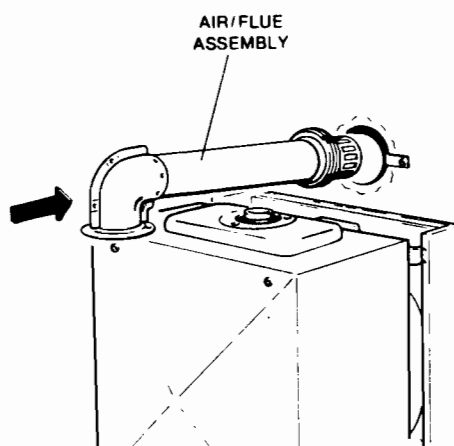
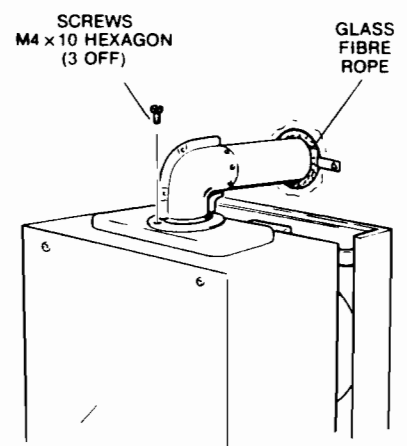

FIG. 23
FIG. 24
g) Coat the sealing ring with a soap solution and slide the flue assembly into the wall liner (see Fig. 23) secure the elbow onto the combination boiler flue spigot, using the three screws provided. Fit the glassfibre rope around the air duct to make a seal between the air duct and the wall liner (see Fig. 24).